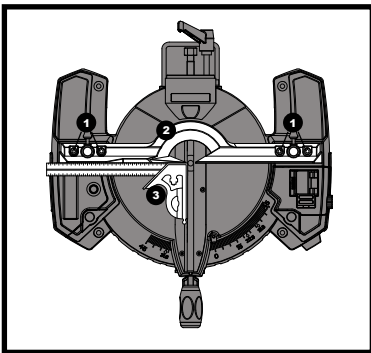

Fig 23
- 1) Loosen the four fence locking bolts (1).
- 3) Using a square (3), lay the heel of the square against the blade and the ruler against the fence (2) as shown.
- 4) Adjust the fence 90° to the blade and tighten the four fence locking bolts. (See fig. 23)